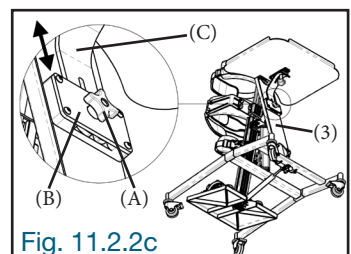

Fig. 11.2.2c
Slightly loosen the locking knob (A) on the slider (B) of the stabilizer (3) and slide the table support (C) up or down in the stabilizer slider. At the desired height, tighten the locking knob (A) on the slider firmly to secure the table in place (Fig. 11.2.2c).